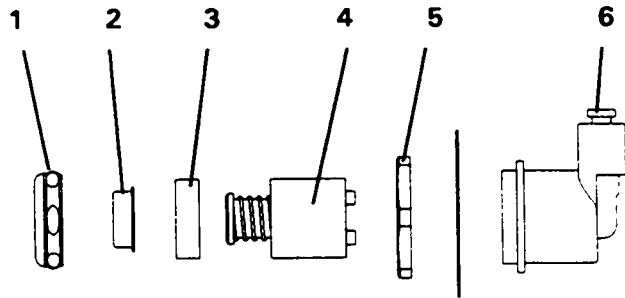

FIG. 3
7. Adjust projector stream height. Stream height is factory set at 35 PSI. If supply pressure varies greatly from this, remove items 1 & 2 (see Fig.3) and adjust screw on item 4. Clockwise adjustment will raise stream and counter-clockwise adjustment will lower stream. For best flow, stream pattern should match Fig. 4.